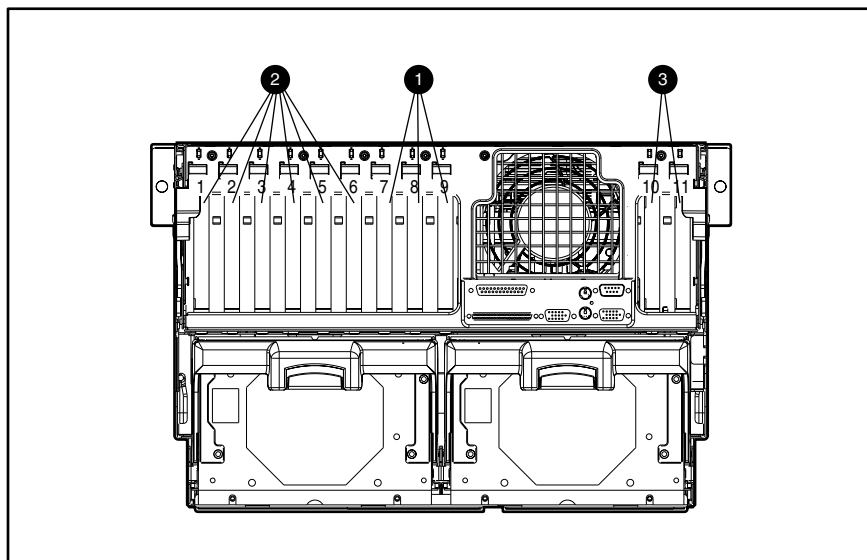
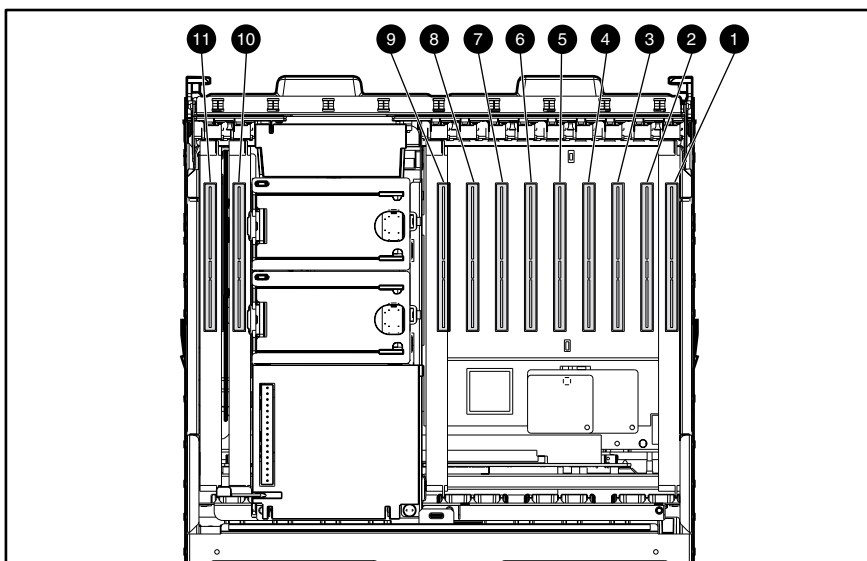

Figure 2-35. Diagram of I/O slot connections from the rear of the server
Figure 2-36. Bus distribution of PCI Hot Plug slots
The I/O expansion slots are located on the I/O board in the I/O module. The I/O board in the Compaq ProLiant DL760 server has 11 slots divided into 3 buses. The Primary bus ❶ (slots 7 through 9) is keyed for 64-bit 5-V PCI boards or 64-bit PCI universal boards. The Secondary bus ❷ (slots 1 through 6) and the Tertiary bus ❸ (slots 10 through 11) are keyed for 64-bit 3.3-V PCI/PCI-X boards or 64-bit universal PCI/PCI-X boards. The PCI/PCI-X expansion slots associated with each of the three buses and the supported speeds are identified in Figure 2-35, Figure 2-36, and Table 2-7. Bus balancing is not required...